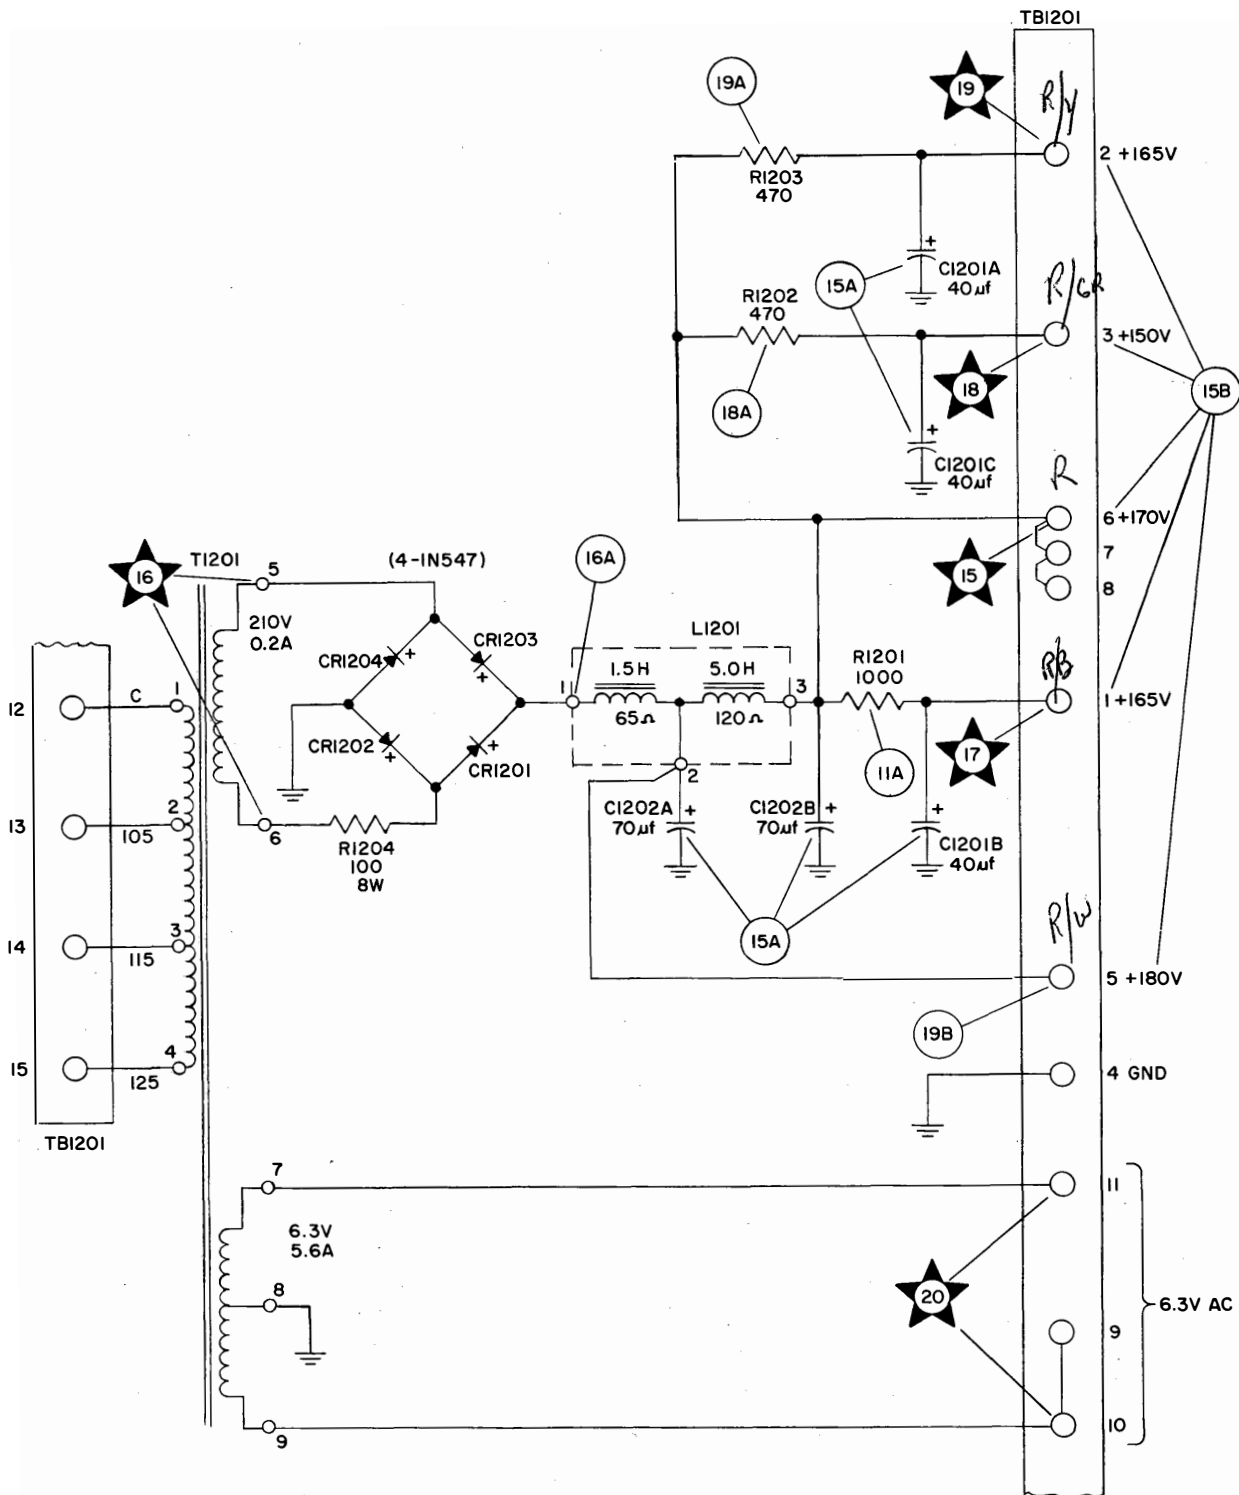
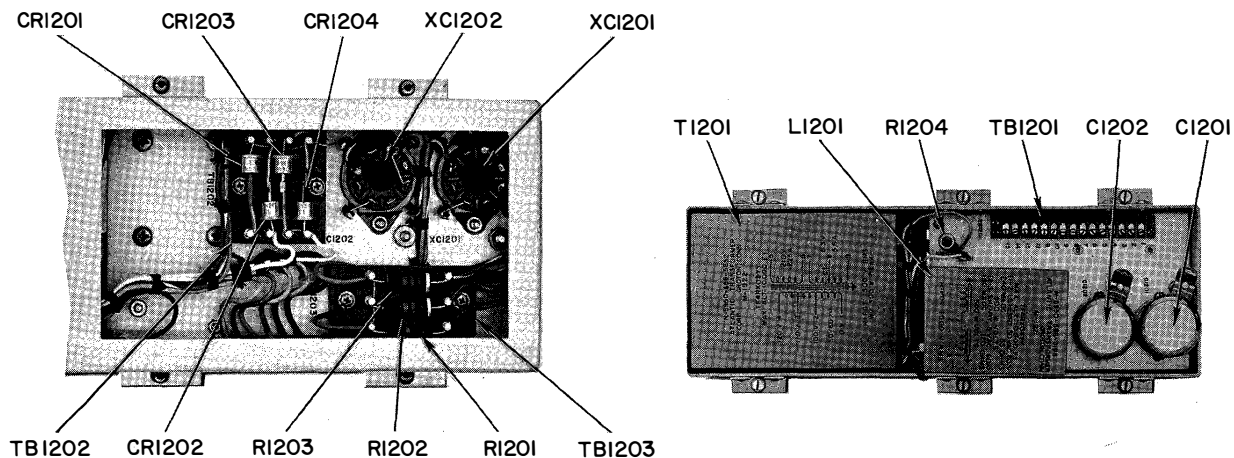

Figure 5-5. Demodulator Power Supply, Functional Schematic Diagram
Figure 5-6. Demodulator Power Supply, Location of Parts
a. FUNCTION.— The demodulator power supply provides plate and filament voltages for the operation of the AM, USB, and LSB detector-amplifier circuits of the receiver. Faulty operation of the power supply will cause erratic operation or will disable the receiver completely. Figure 5-5 is a functional schematic diagram; figure 5-6 shows the location of parts.
- (1) Cable connections at TB651, TB652, and TB1201
- (2) Clamping of plug-in capacitors C1201 and C1202 in their sockets.